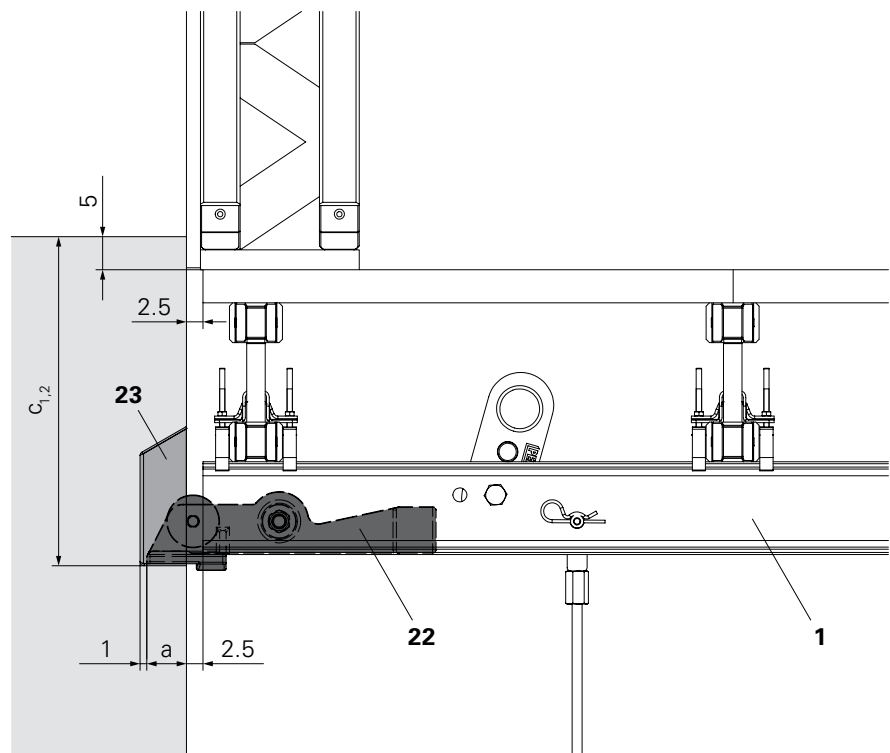

Fig. A1.02
- The distance  $c_{1,2}$  from the bottom edge of the Bearing Box to the concreting joint depends on the type of girder. (Fig. A1.02)